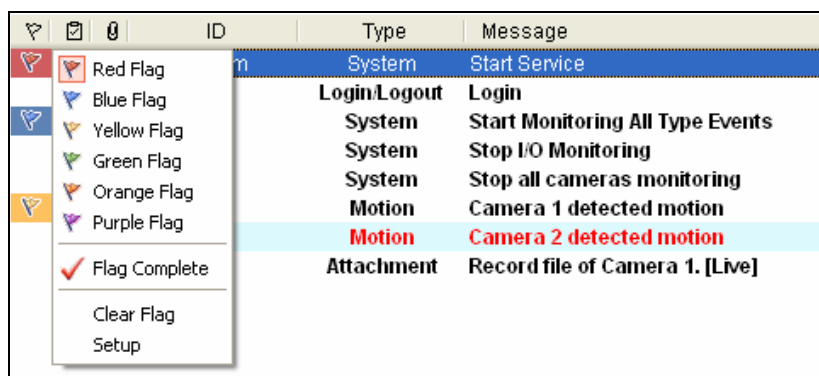

Figure 9-39
1. On the Event List window, select one event, and right-click in the flag column. The Flag list appears (Figure 9-39).